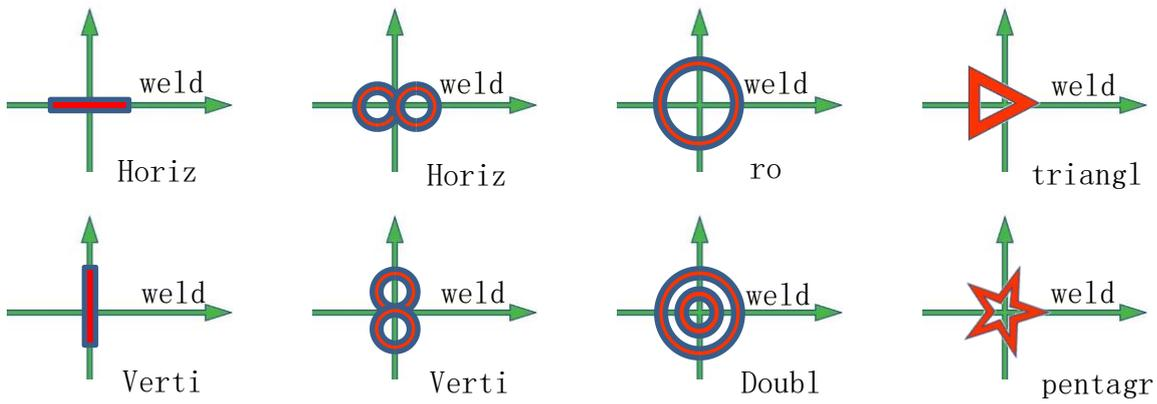

Figure 1.2
- Eight swing modes are supported, as shown in Figure 1.2 :